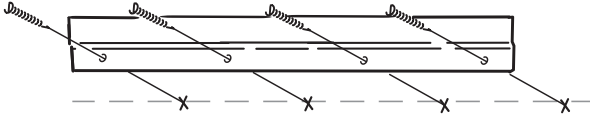

Fig 2. - Hanging Bracket
3. Using a spirit level, mark a horizontal line below the pencil mark for the top of the cabinet. Align the top of the hanging bracket with the line and carefully mark the position of the holes using a soft pencil, *see Fig. 2*